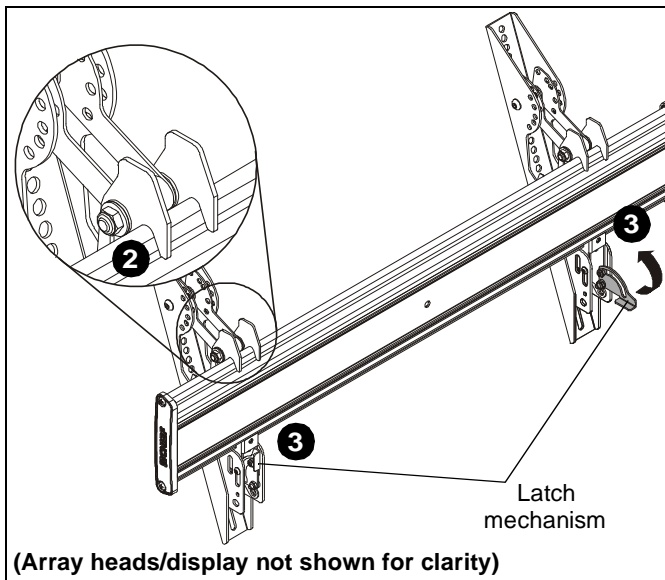

Figure 16
2. While supporting both sides of display, lower display onto center of ceiling mount, hooking top of interface brackets onto front of ceiling mount. (See Figure 16)
3. Raise the latch mechanism on both interface brackets to lock bracket in place. (See Figure 16)